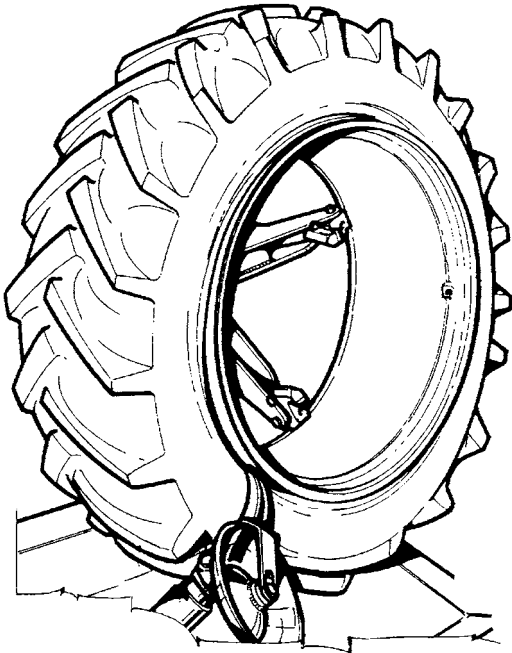

Fig.44
5. Place the hook tool between bead and rim (fig.44).